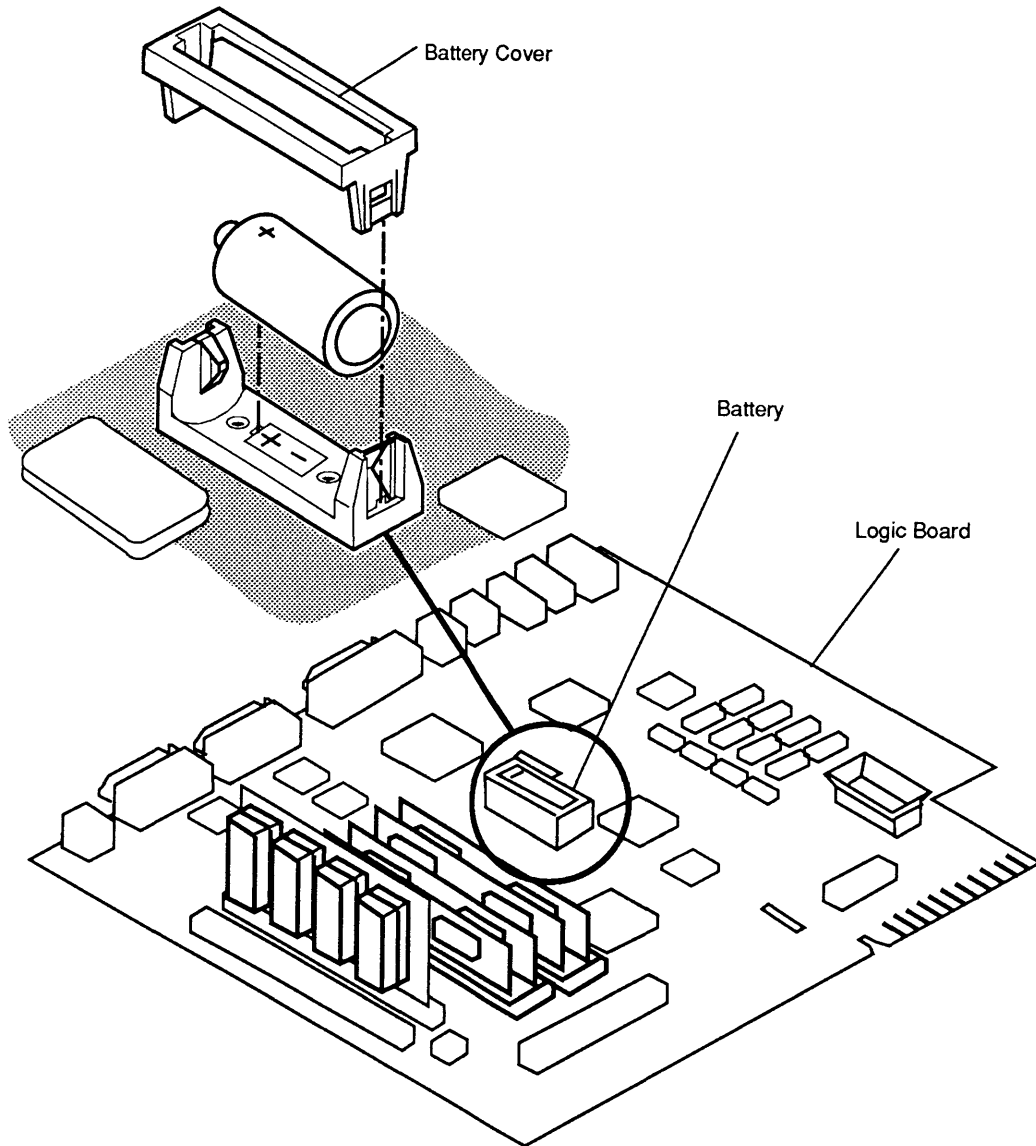

Figure 5-1 Battery
2. Locate the battery holder and battery (**Figure 5-1**) toward the center of the logic board.
1. Insert the new battery so the positive side of the battery is inserted into the positive-marked side of the holder (**Figure 5-1**).
CAUTION: *Be sure the positive side of the battery is in the correct location (see **Figure 5-1**). An incorrectly placed battery can damage the logic board.*